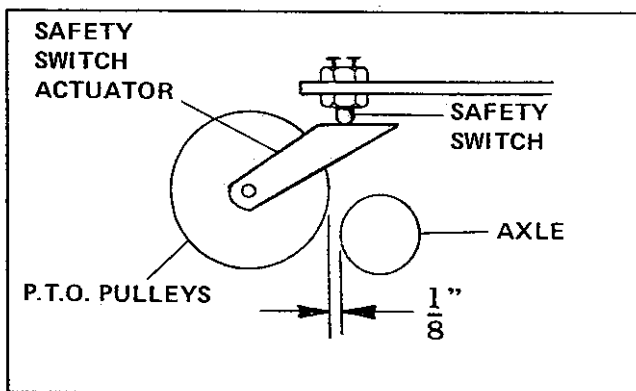

FIGURE 4A
10. Pull P.T.O. lever all the way back to the disengaged position. Adjust safety switch actuator on capscrew so safety switch is actuated when P. T.O. pulleys are 1/8 inch from axle (Figure 4A). Tighten nut. Be sure P. T.O. pulleys do not rub on axle.